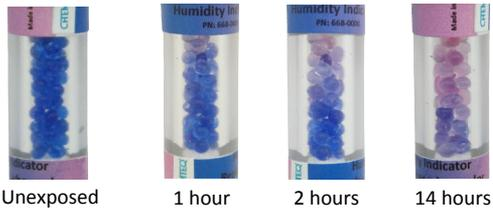

Figure 2: Exposures to 10.3µg/cm³ water vapor at 5 cm/min airflow
- e. Color change: See figure 2
- g. Replace filter when the Breakthrough Indicator changes color to pink (Figure 2).